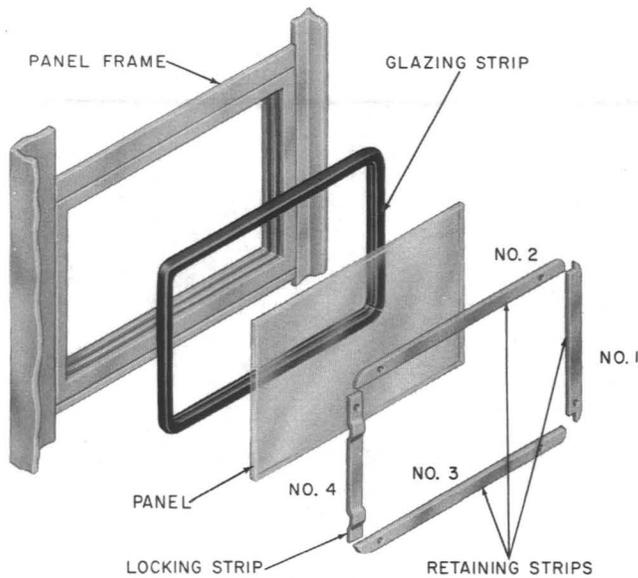

Fig. 24—Assembly of Side or Rear Panels
- 4.11 Booth panels and signs are held in place by four interlocking retaining strips. They are inserted in sequence as shown in Fig. 24. The No. 4
- (1) Remove No. 4 locking strip.
- (2) Remove retaining strips No. 2 and No. 3.
- (3) Remove retaining strip No. 1.
- (4) Remove panel and rubber glazing strip.
- (5) Apply rubber glazing strip to replacement panel.
- (6) Insert panel into frame with the beaded edge of retaining strip on the outside.
- (7) Replace retaining strips in sequence as shown in Fig. 24.
4.16 The side and rear signs are removed in the same manner as the side panels (Fig. 24).
- 4.45** Replace glass panels in same manner as side panels (Fig. 24).